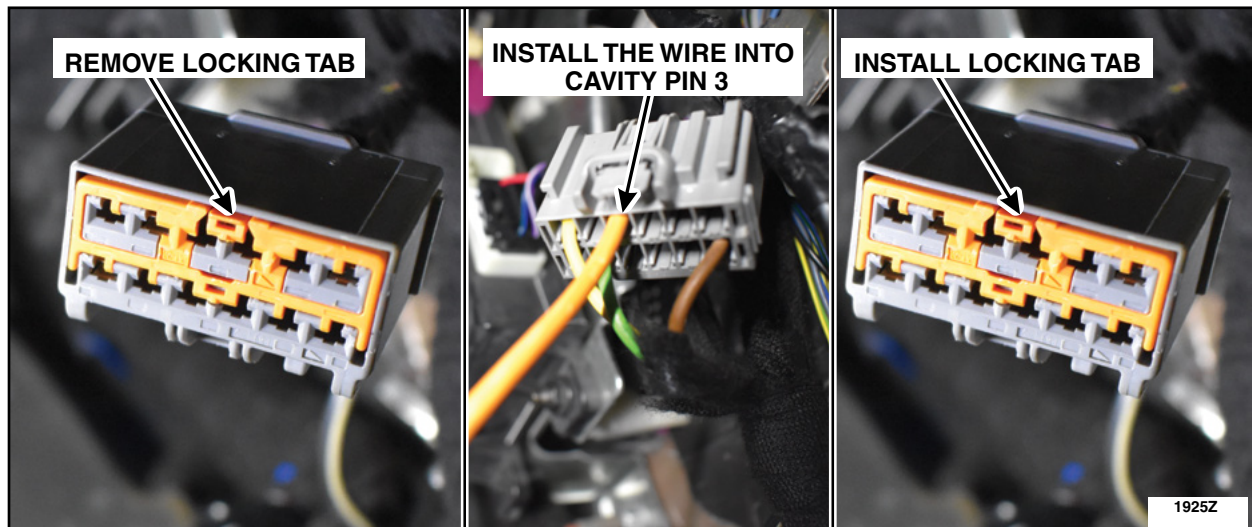

FIGURE 30
32. Remove the orange locking tab and locate cavity pin number 3. Install the orange wire into cavity pin number 3 and the orange locking tab. See Figure 30.